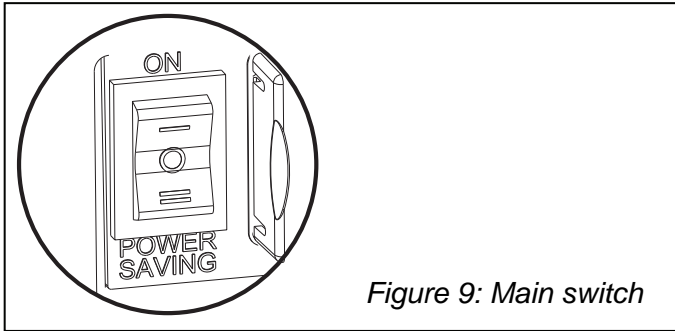

Figure 9: Main switch
Move the main switch (figure 9) to position I ("ON") or II ("Power saving"). With the power switch in position II, the battery is saved when the load is under 40 W. The AC Master is in scan mode then and switches on when it detects a load. When the AC Master switches on, it will produce a short beep.
Move the main switch (figure 9) to the position O ("OFF"). Note that switching off the AC Master does not disconnect the batteries!
1. Move the main switch (figure 9) to position 0 ("OFF").